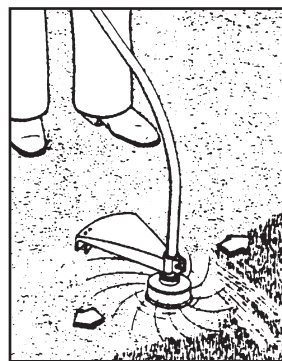

Fig. 12.
- Hold the trimmer head parallel to the ground and swing the grass trimmer from side to side whilst walking slowly forwards, do not move forward so much if the going gets heavy. See fig. 12